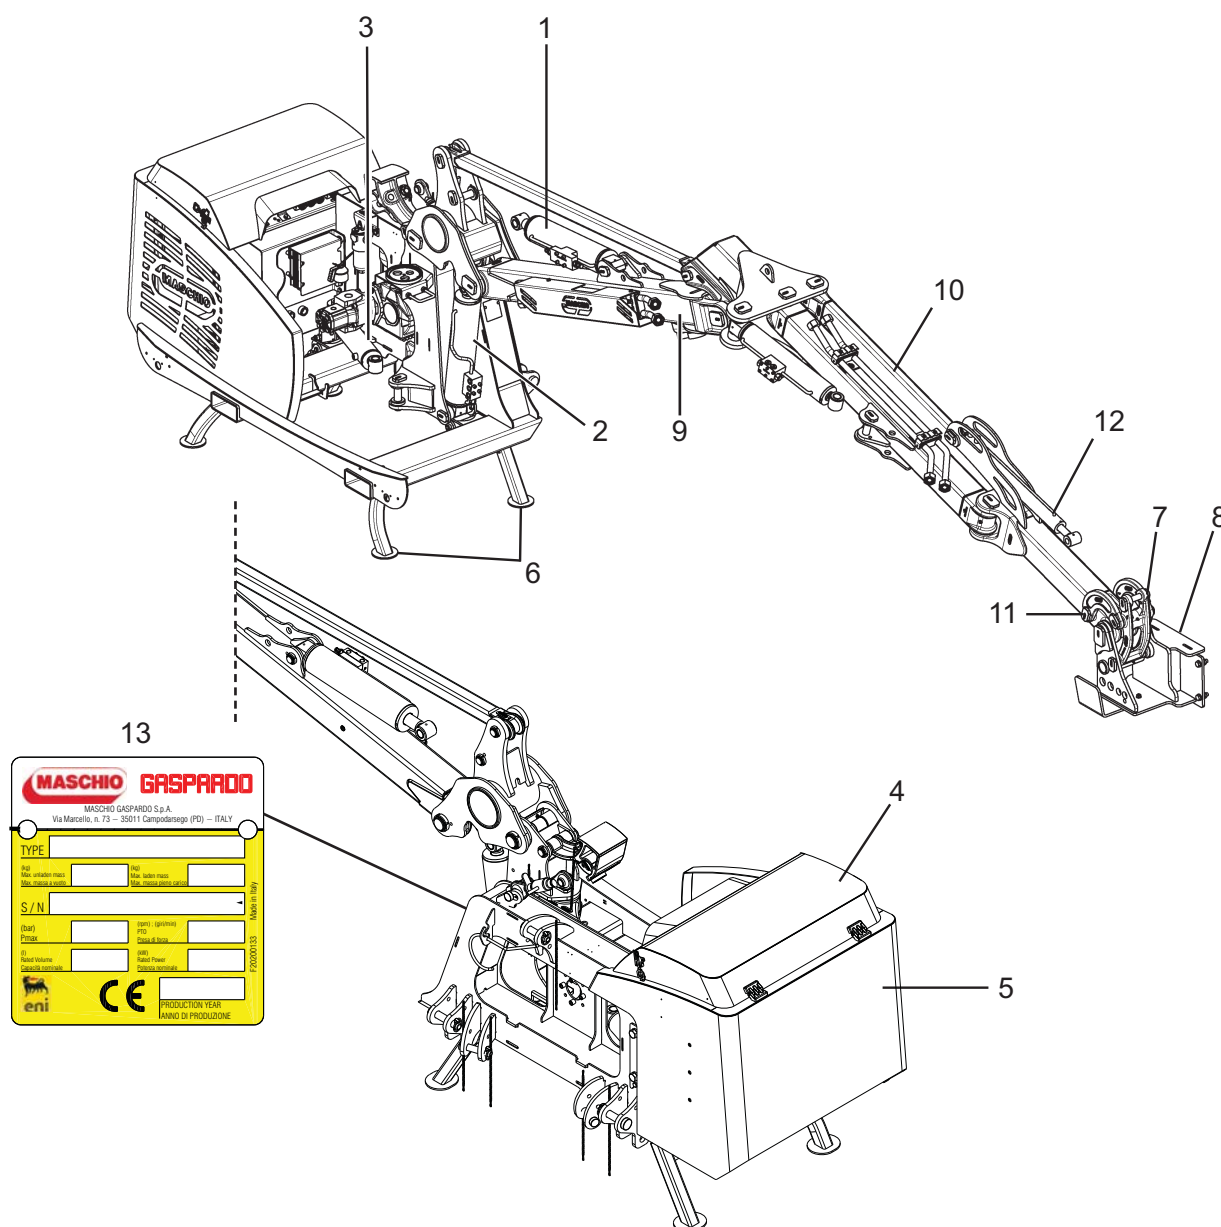

Fig.9
3.2 DISEGNO COMPLESSIVO (Fig.9)